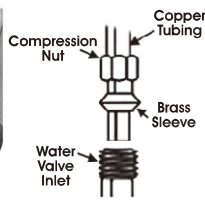

Fig 3
- Slide brass compression nut, then brass sleeve (ferrule), onto the end of the copper water supply line. (See Fig 3.)